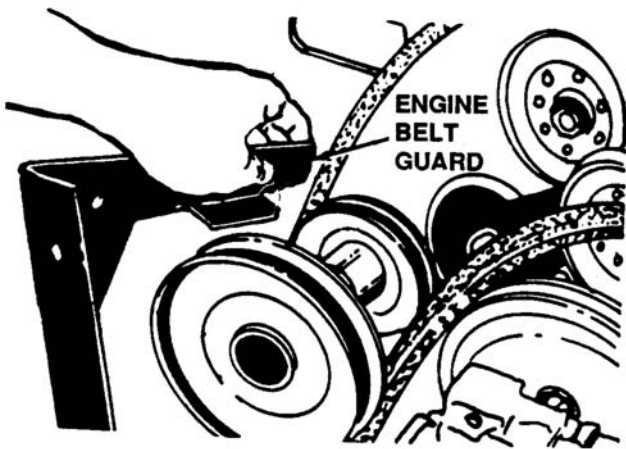

Figure 7-16. Location of Engine Belt Guard
8. Remove two hex bolts, nuts and lock washers from the engine pulley belt guard at rider frame to allow the engine pulley belt guard to drop down out of the way. See Figure 7-16.